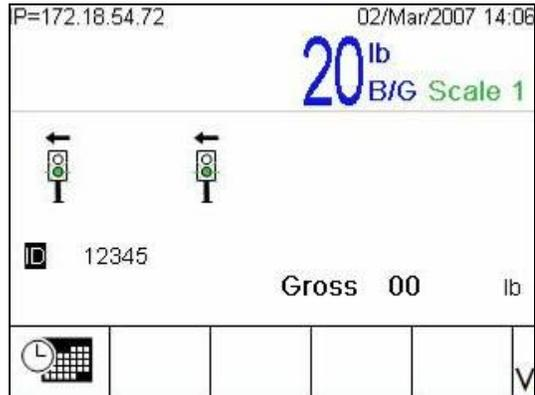

Figure 6-20: Runtime Screen, ID Read and Displayed
- If a badge is scanned and the Badge Number located in the ID Table, the Badge ID will be displayed on screen (Figure 6-20), and also printed on the transaction ticket as the transaction ID.